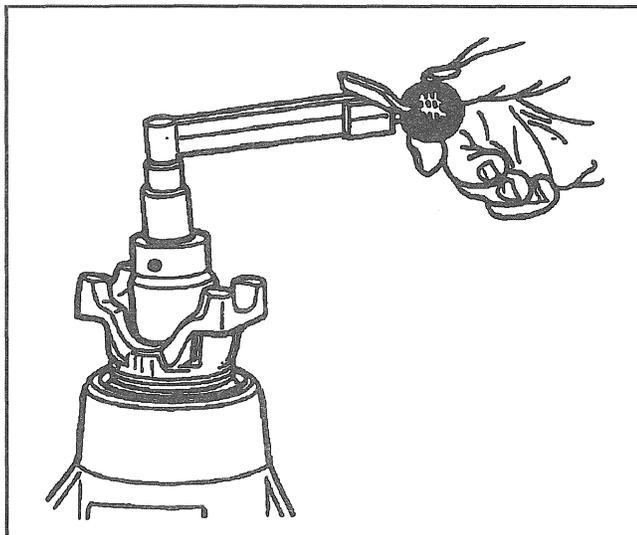

Figure 11—Checking Pinion Preload
- Remove J 8614-01. Using an inch-pound torque wrench, check the pinion preload by rotating the pinion with the wrench. Preload should be at or below 2.8 to 4.0 N.m (25 to 35 lb. in.) for new bearings, or 0.56 to 1.7 N.m (5-15 lb. in.) for used bearings (Figure 11).
10. Pinion cage (10) to the axle housing. Refer to "Pinion Installation" in this section.